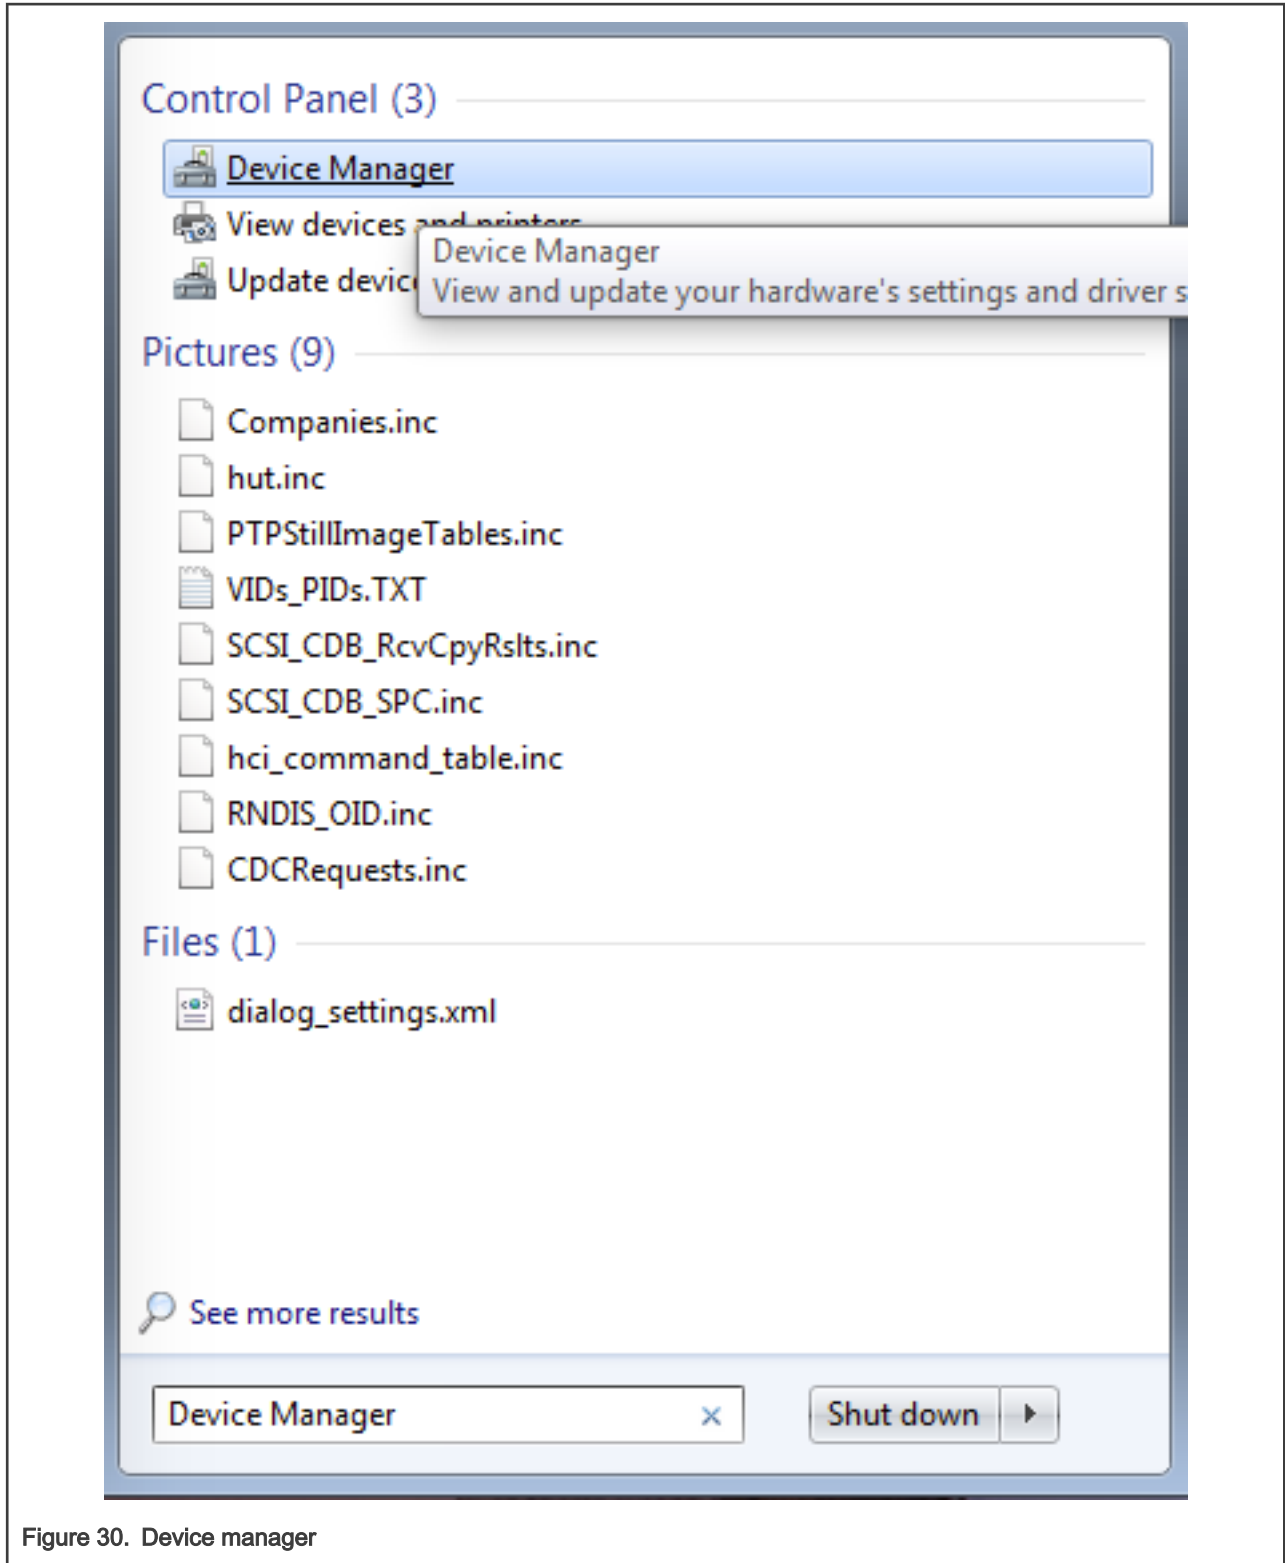

Figure 30. Device manager
- To determine the COM port, open the Windows operating system Device Manager. This can be achieved by going to the Windows operating system Start menu and typing **Device Manager** in the search bar, as shown in Figure 30.